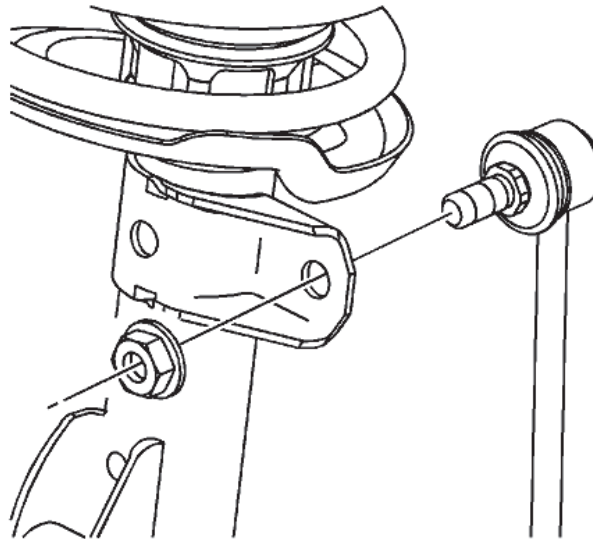

fig. 2
2. Detach brake hoses, wheel speed sensors, and the stabilizer link from the strut assembly (Fig. 2).